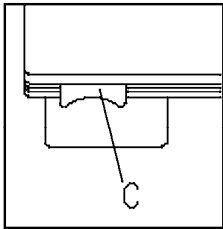

Fig. 4
On/off switch **C** is located on the left hand side of the PT 100 below the control panel. **Fig. 4**
- Press on/off switch **C**. **Fig. 4**